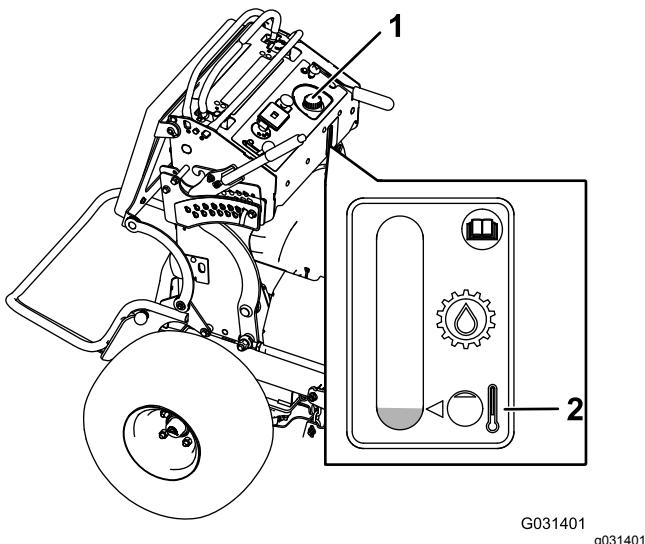

Figure 74
3. Clean the area around the cap and the filler neck of the hydraulic tank (Figure 74).
4. Remove the cap from the filler neck (Figure 74).